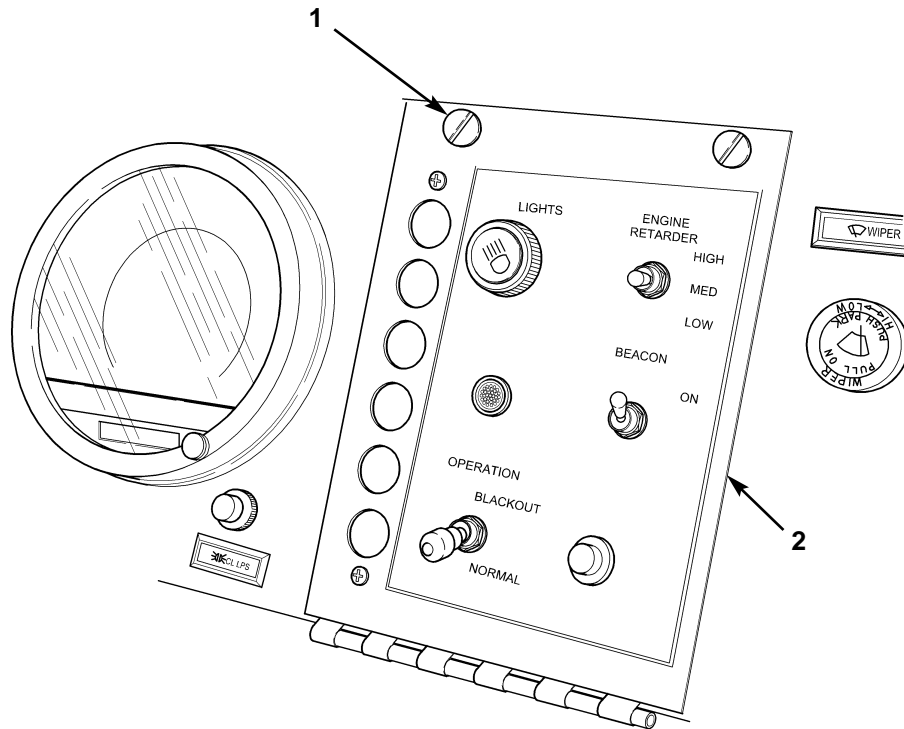

Figure 4. Closing Center Control Panel.
6. Close center control panel (figure 4, item 2) and turn two turnlock fasteners (figure 4, item 1) 90 degrees.